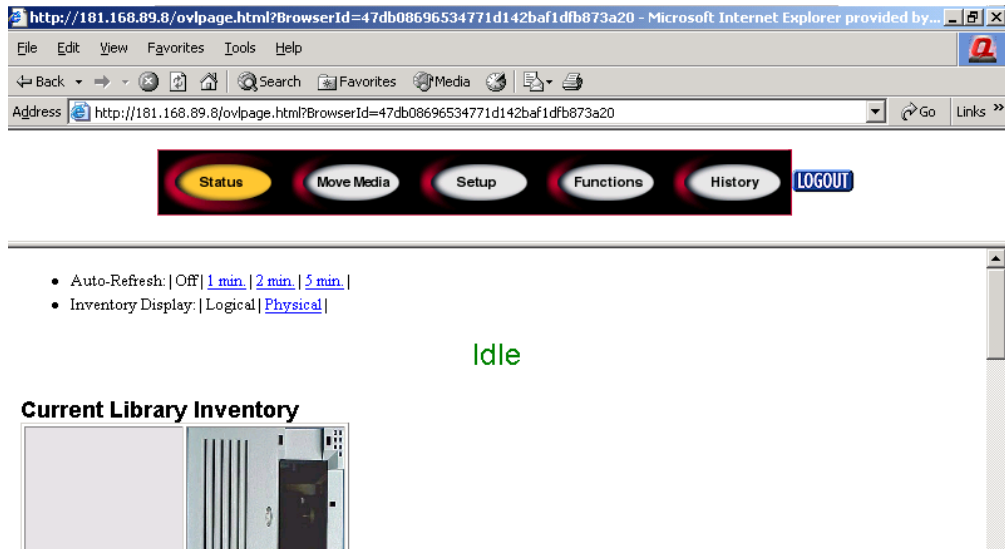

Figure 66: Status screen
3. Click on the library to access the **Status** screen (see Figure 66).